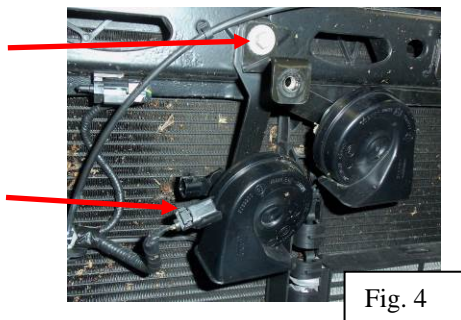

Fig. 4
5. Unplug the wire pigtail for the horns. Remove the horns and bracket using a 10mm wrench (Fig. 4).